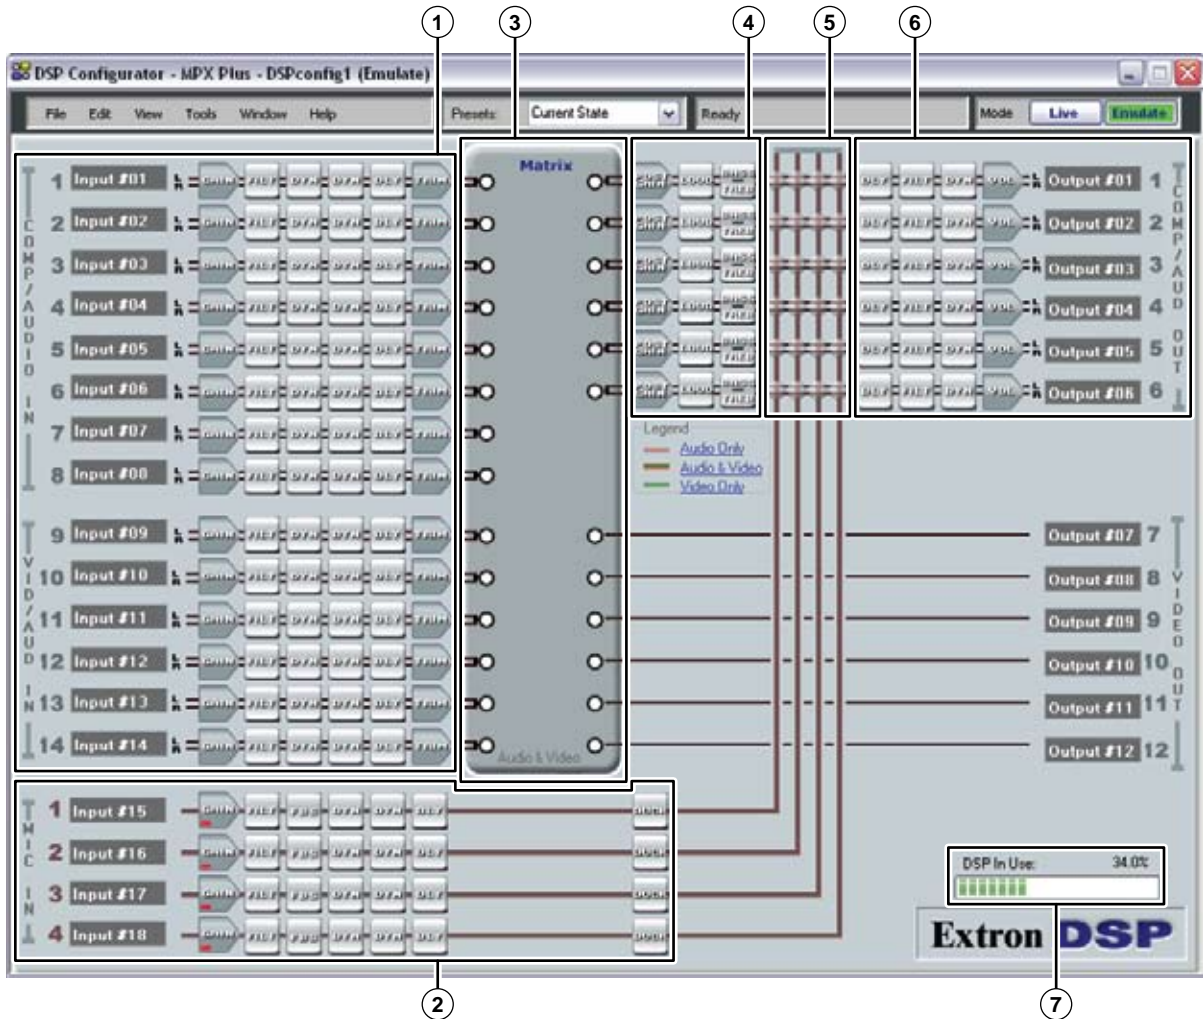

Figure 5-3 — DSP Configurator program window
To run the DSP Configurator Program, click **Start > Programs > Extron Electronics > DSP Configurator > DSP Configurator**. The DSP Configurator program starts in *Emulate* mode (figure 5-3, on the next page).
- *Audio and video I/O page* (figure 5-3)
The DSP Configurator program always starts in the audio and video I/O page, as shown in figure 5-3. Three additional control blocks are available in the video-only I/O page. See “*Video-only I/O page controls*”, later in this chapter.